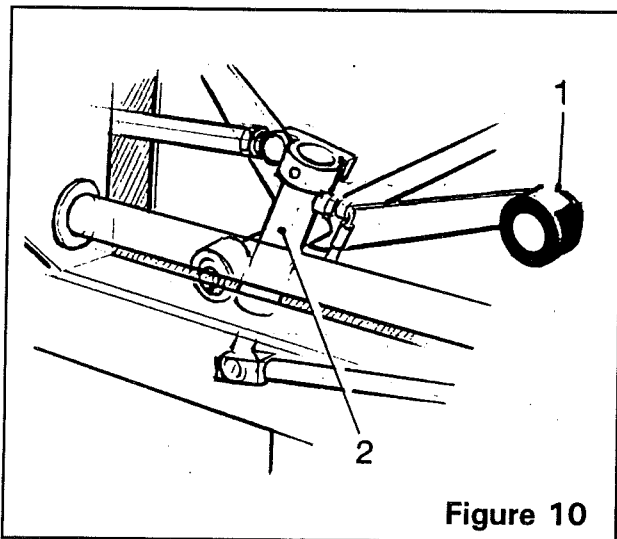

Figure 10
The digger web is 1520mm wide and is available in 28mm, 32mm, 36mm, 40mm, 45mm, 50mm pitches. The separation of soil from the crop can be increased or decreased by altering the movement of the agitator rollers (item 1, figure 10). This adjustment is carried out by actuating the hydraulic ram (item 2, figure 10). To adjust, move the switch on the in-cab control box marked 'Agitation Increase/Decrease' in the required direction.